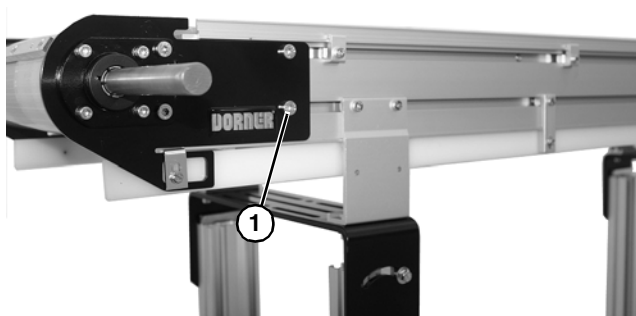

Figure 13
1. Remove bottom M8 screw (Figure 13, item 1) from side of conveyor.